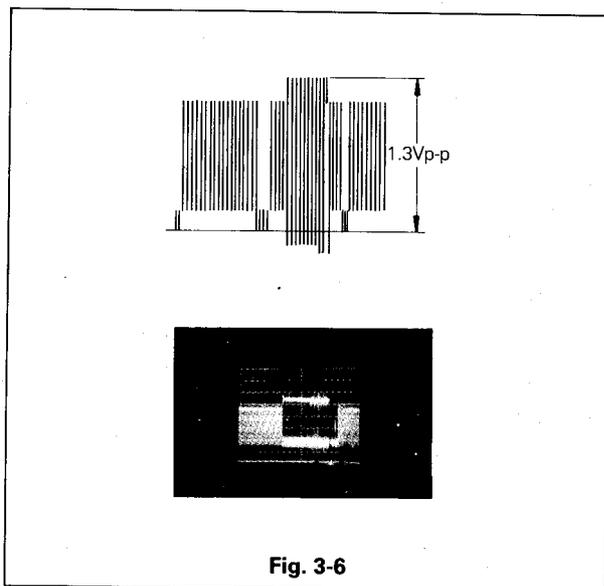

Fig. 3-6
- Referring to Fig. 3-6, adjust VR2A0 so that the upper limit of the noise bar from the top end of synchronizing signal is  $1.3 \pm 0.05$ Vp-p.